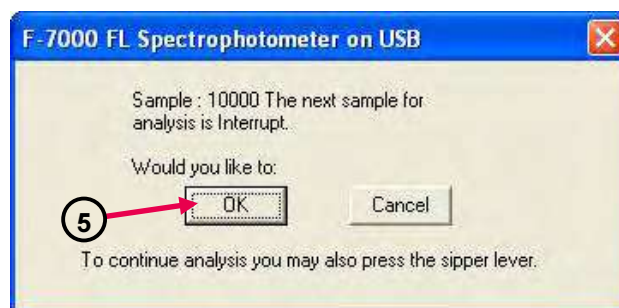

Fig. 4-30
- ④ Click the **OK** button, and the window in Fig. 4-30 will appear.